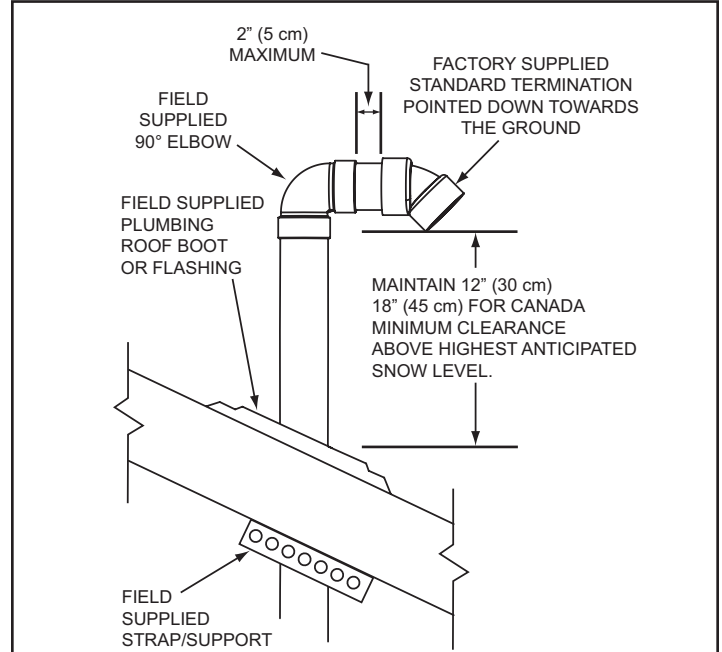
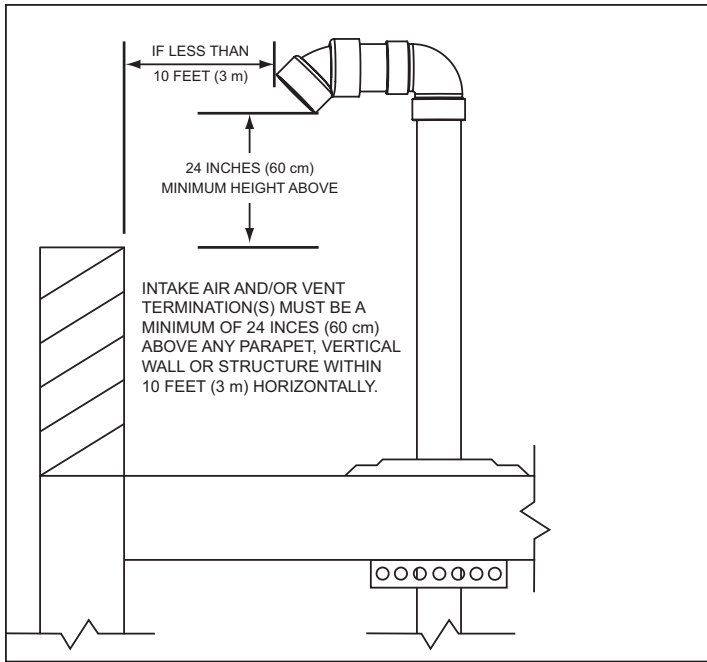
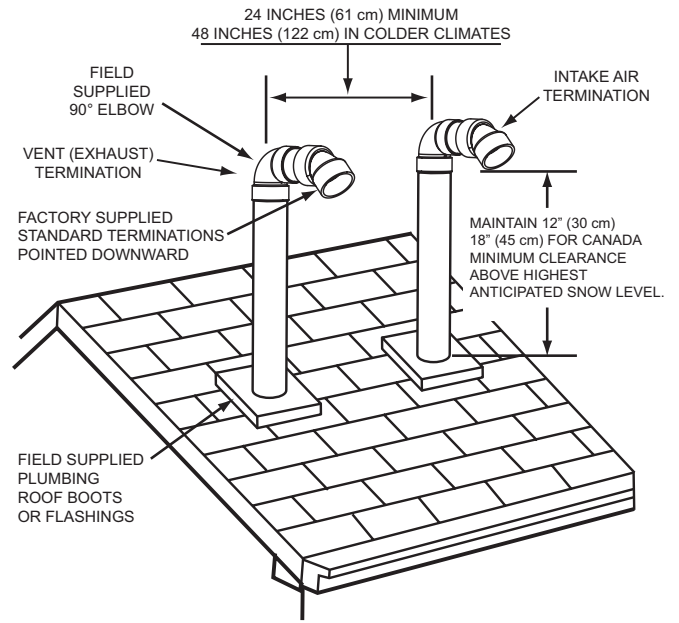

Figure 19. Vertical Termination(s) Installation
Figure 20. Vertical Termination(s) Flat Roof Clearance
Figure 21. Vertical Termination - Direct Vent
2. If installing only the vent (exhaust) piping in a Power Vent configuration vertically through the roof; ensure that all exterior vertical clearance requirements, shown in *Figure 19* and *Figure 20* (page 26), are being maintained. These clearances and those cited by local and national codes must be maintained.
Note: On flat roof installations the vent termination must be a minimum of 24 inches (60 cm) above any parapet, vertical wall or structure within 10 feet (3 m) horizontally. See *Figure 20* (page 26).
3. If installing both intake air and vent piping in a Direct Vent configuration vertically through the roof; ensure that all exterior vertical clearance requirements shown in *Figure 20* (page 26) and *Figure 21* (page 26) are being maintained. These clearances and those cited by local and national codes must be maintained.
Note: On flat roof installations the intake air and the vent terminations must be a minimum of 24 inches (60 cm) above any parapet, vertical wall or structure within 10 feet (3 m) horizontally. See *Figure 20* (page 26).
The vent termination must be oriented facing downward as shown in *Figure 19* and *Figure 20* (page 26).
The bottom edge of the vent termination must be a minimum of 12 inches (30 cm), 18 inches (45 cm) in Canada, above the average or expected snow level as shown in *Figure 19*.
The intake air and vent pipes must penetrate the same side of the roof as shown in *Figure 21* (page 26).
The intake air and vent terminations must be oriented facing downward and in the same direction as shown in *Figure 21* (page 26).
in *Figure 21* (page 26). In colder climates this separation should be increased to at least 48 inches (122 cm).
The bottom edge of the intake air and vent terminations must be a minimum of 12 inches (30 cm), 18 inches (45 cm) in Canada, above the average or expected snow level as shown in *Figure 19* below and *Figure 21* (page 26).
The distance between the closest vent and intake air terminations must be a minimum of 24 inches (61 cm) as shown in *Figure 21* (page 26). In colder climates this separation should be increased to at least 48 inches (122 cm).
8. Suspend the pipe(s) through center of hole using field supplied metal strapping or equivalent support materials as shown in *Figure 19*.
9. Slide a roof boot or equivalent flashing over the pipe and secure roof boot or equivalent flashing to roof (see *Figure 19*) and seal around the flashing.
10. Install the factory supplied intake air and/or vent termination(s) using field supplied pipe and one field supplied 90° elbow as shown in *Figure 19*. The short section of pipe that connects between the field supplied 90° elbow and the factory supplied termination must not be excessive in length. The exposed portion of this pipe shall be no more than 2 inches (5 cm). See *Figure 19*.